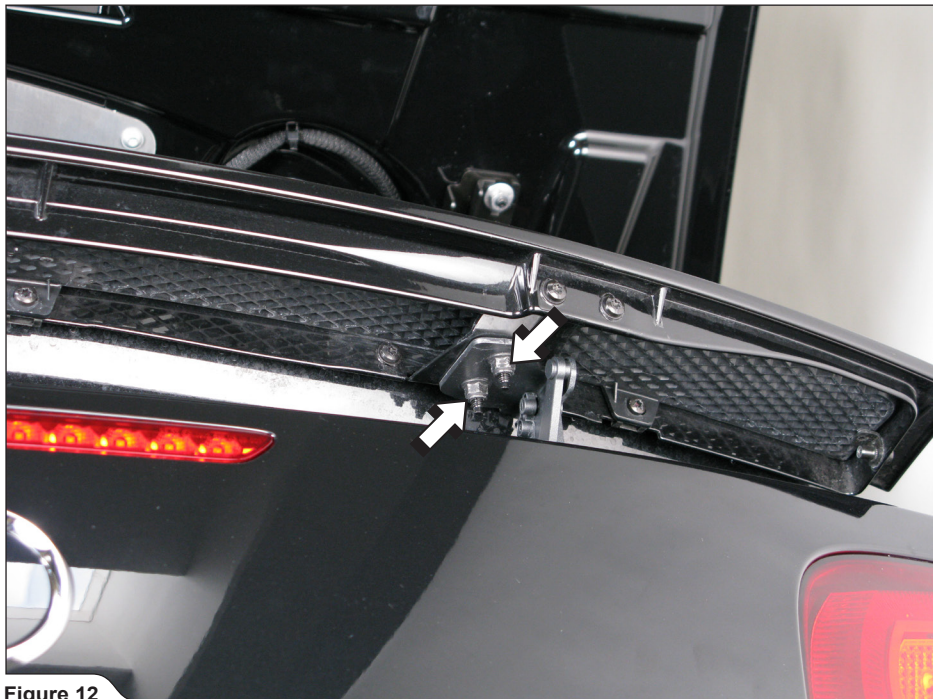

Figure 12
9. Unscrew the marked nuts on both sides of the pop-up spoiler and remove the spoiler off the vehicle (**Figure 12**).